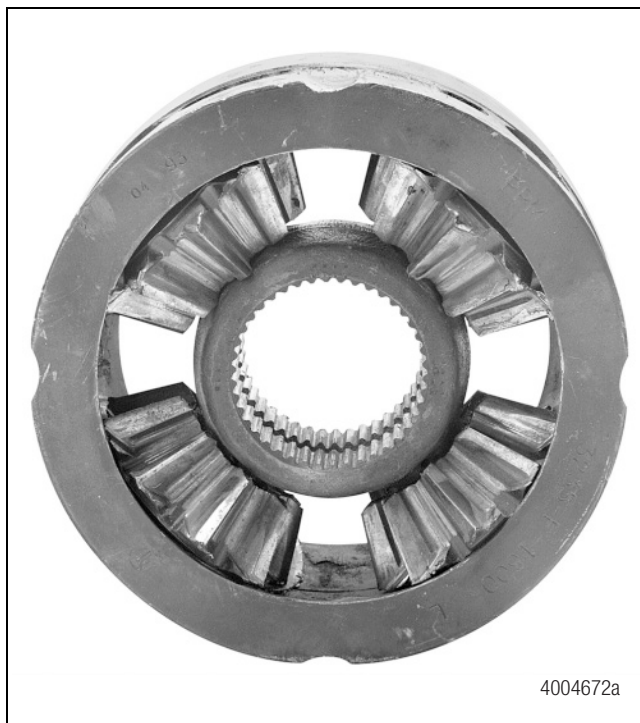

Figure 4.77
**Primary Damage:** The drive pinions are excessively loose on the spider legs. The pinions have worn into the IAD case. Figure 4.77.